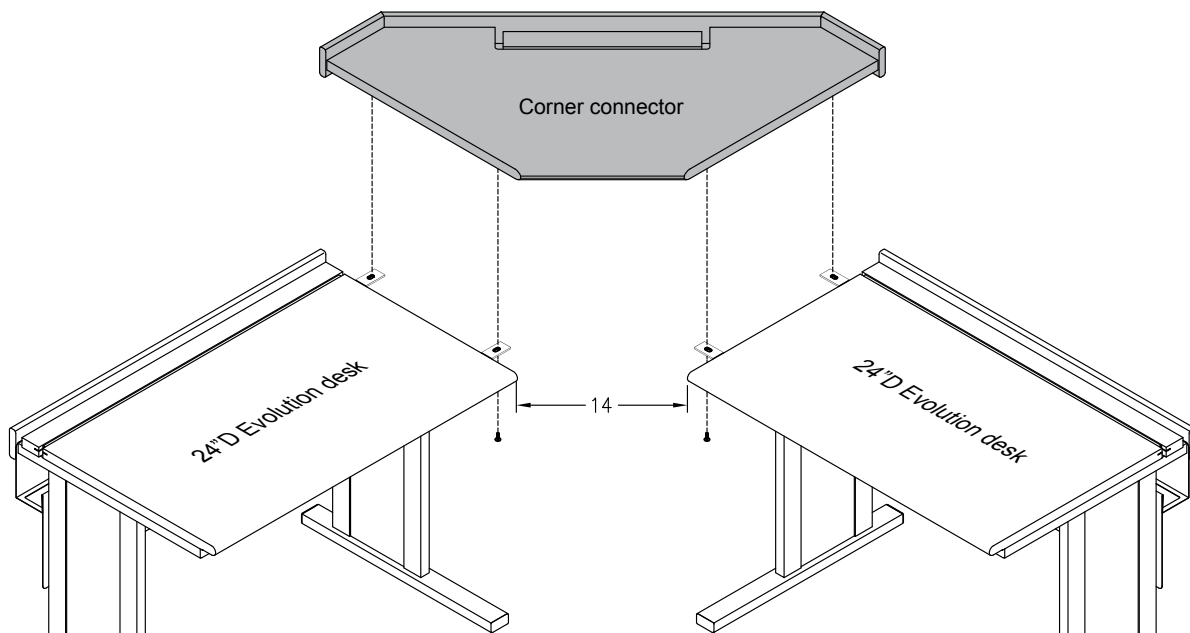

Figure 3
1. Align both desks 90° to each other leaving about 14" between the corners as shown in **Figure 3**.
3. Attach with (4) 1/4-20 x 5/8" PHM screws, but do not tighten completely-after the screws are started, alignment of the desks may be necessary.